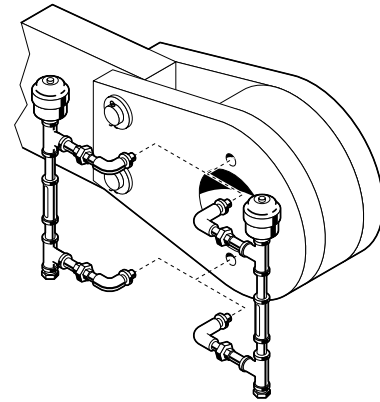

Figure 4
10. Install oil sight gauge attachment. Follow instructions in (Figure 4).
Oil sight gauge may be installed in either the right-hand or left-hand positions, on either side of the Holdback. (See Figures 4 and 5)